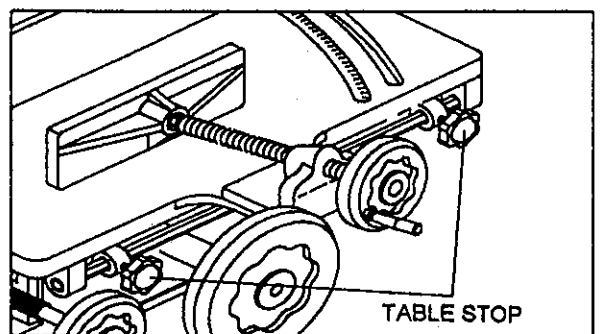

Fig.4
3. Adjust the stops according to the length of cut required (Fig.4).